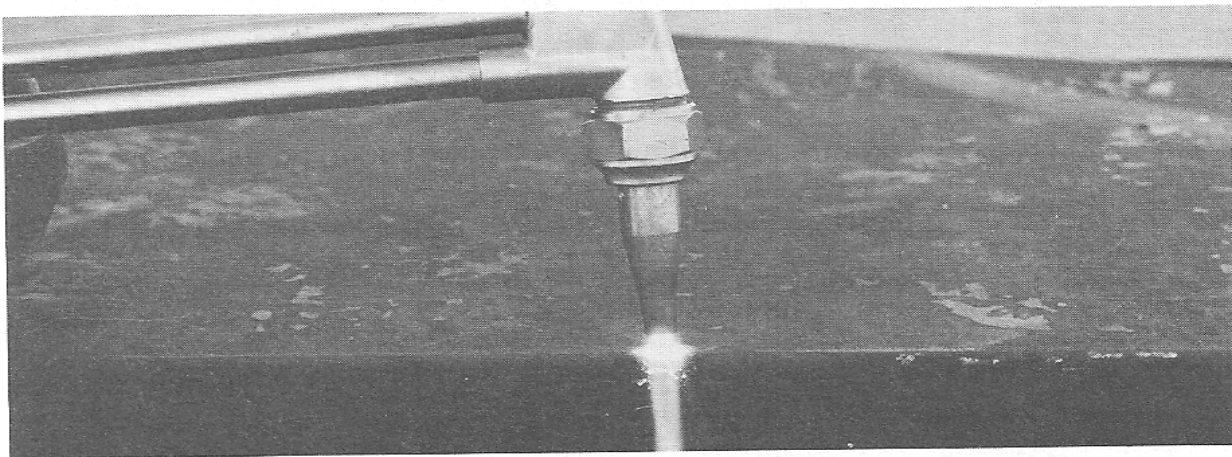

Figure 26, Starting the Cut
18. Direct the preheat flame to the spot where you want to start the cut (see Figure 26). Before the cutting action can start, preheat the base metal to a bright cherry red. When the red spot appears, depress the cutting oxygen lever slowly and fully.